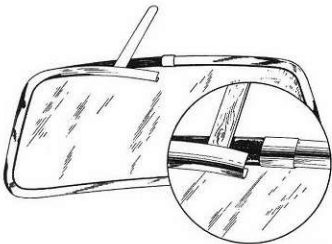

Fig. 8-28. Removing trim moulding
3. Remove the trim moulding by levering out the ridge of the rubber strip from the trim moulding with a moistened wooden putty knife and releasing the trim moulding in the middle with another putty knife as shown in Fig. 8-28. Lever off the moulding carefully while releasing the rubber strip with the other putty knife.